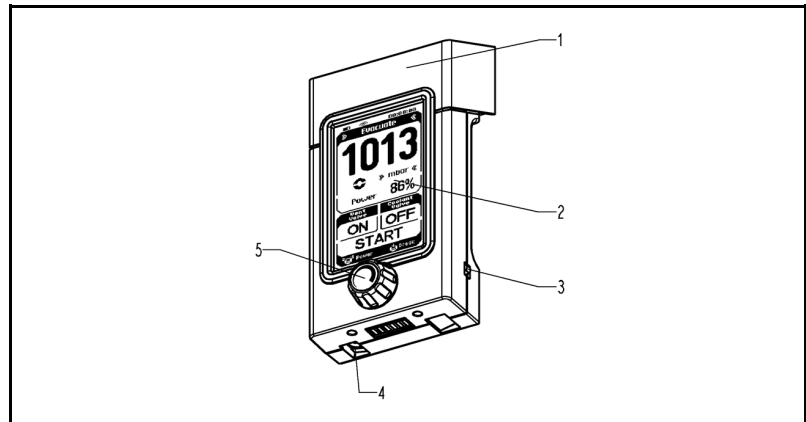

Fig. 9: Hand terminal
- a ~~rotating-rotary~~ knob (Fig. 9/5) and
- a touchscreen (Fig. 9/2).
To remove the hand terminal from the vacuum pump system: grasp the upper grip of the hand terminal (Fig. 9/1) and pull until it releases, and then remove it.
Insert the bottom of the terminal into the holder provided in the vacuum pump system (Fig. 2/5, page 13); then push firmly on the upper grip of the terminal (Fig. 9/1) until it clicks into place.